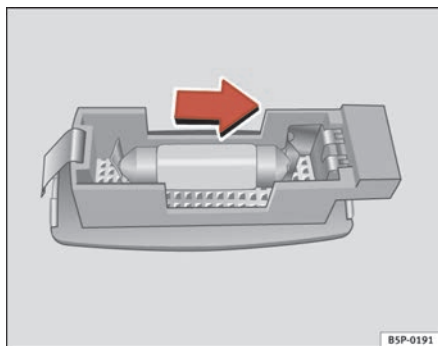

Fig. 196 Removing sunroof light
- Carefully remove the lamp, using the flat side of the screwdriver, as shown in the figure ⇒ fig. 196.
- Remove the bulb, moving it in the direction of the arrow and outwards ⇒ fig. 196. ■